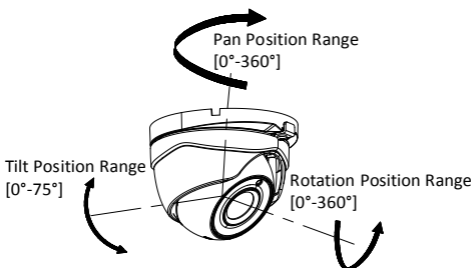

Figure 2-10 3-axis Adjustment
8. Adjust the camera according to Figure 2-10 to get an optimum angle.